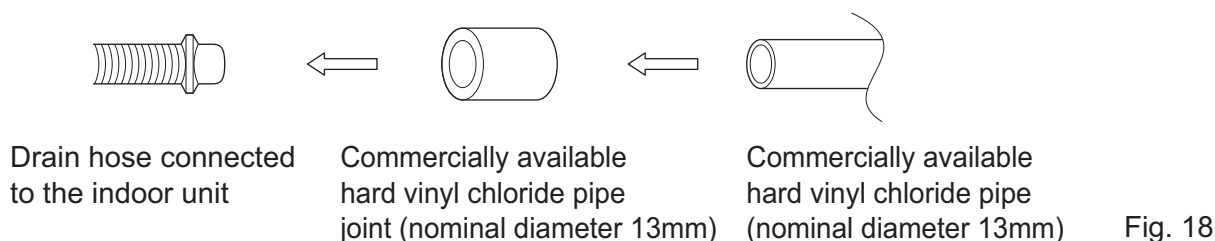

Fig. 18
- When directly connecting a hard vinyl chloride pipe joint (nominal diameter 13mm) to the drain hose connected to the indoor unit (i.e. for embedded piping, etc.), use a commercially available hard vinyl chloride pipe joint (nominal diameter 13mm). **(Refer to Fig. 18)**